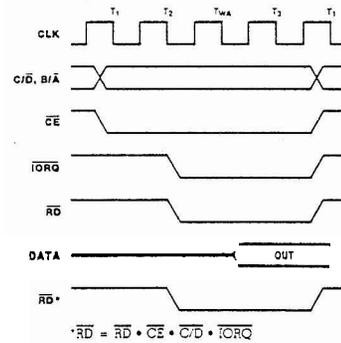

Figure 13. Read Cycle Timing
**Read Cycle.** Figure 13 illustrates the timing for reading the data input from an external device to one of the Z-80 PIO ports. No Wait states are allowed for reading the PIO other than the automatically inserted TWA.